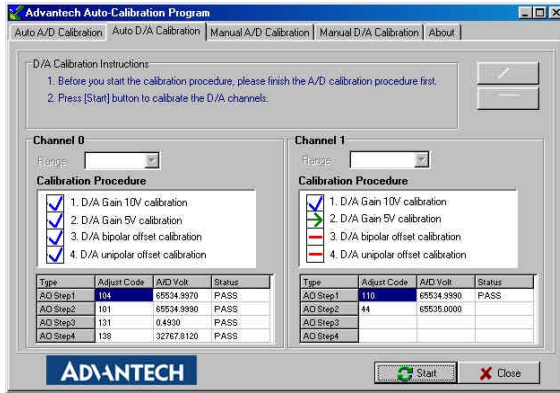

Fig. 5-11: Calibrating D/A Channel 1
Step 11: D/A channel 1 calibration is enabled (Fig. 5-11)